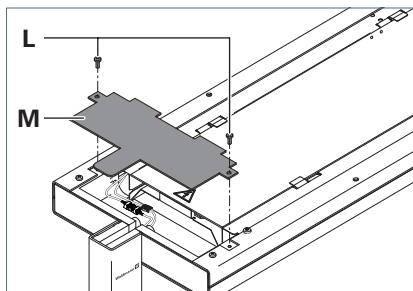

Fig. 7: Mounting the cover
- Place the cover **M** on the light head, see Fig. 7.